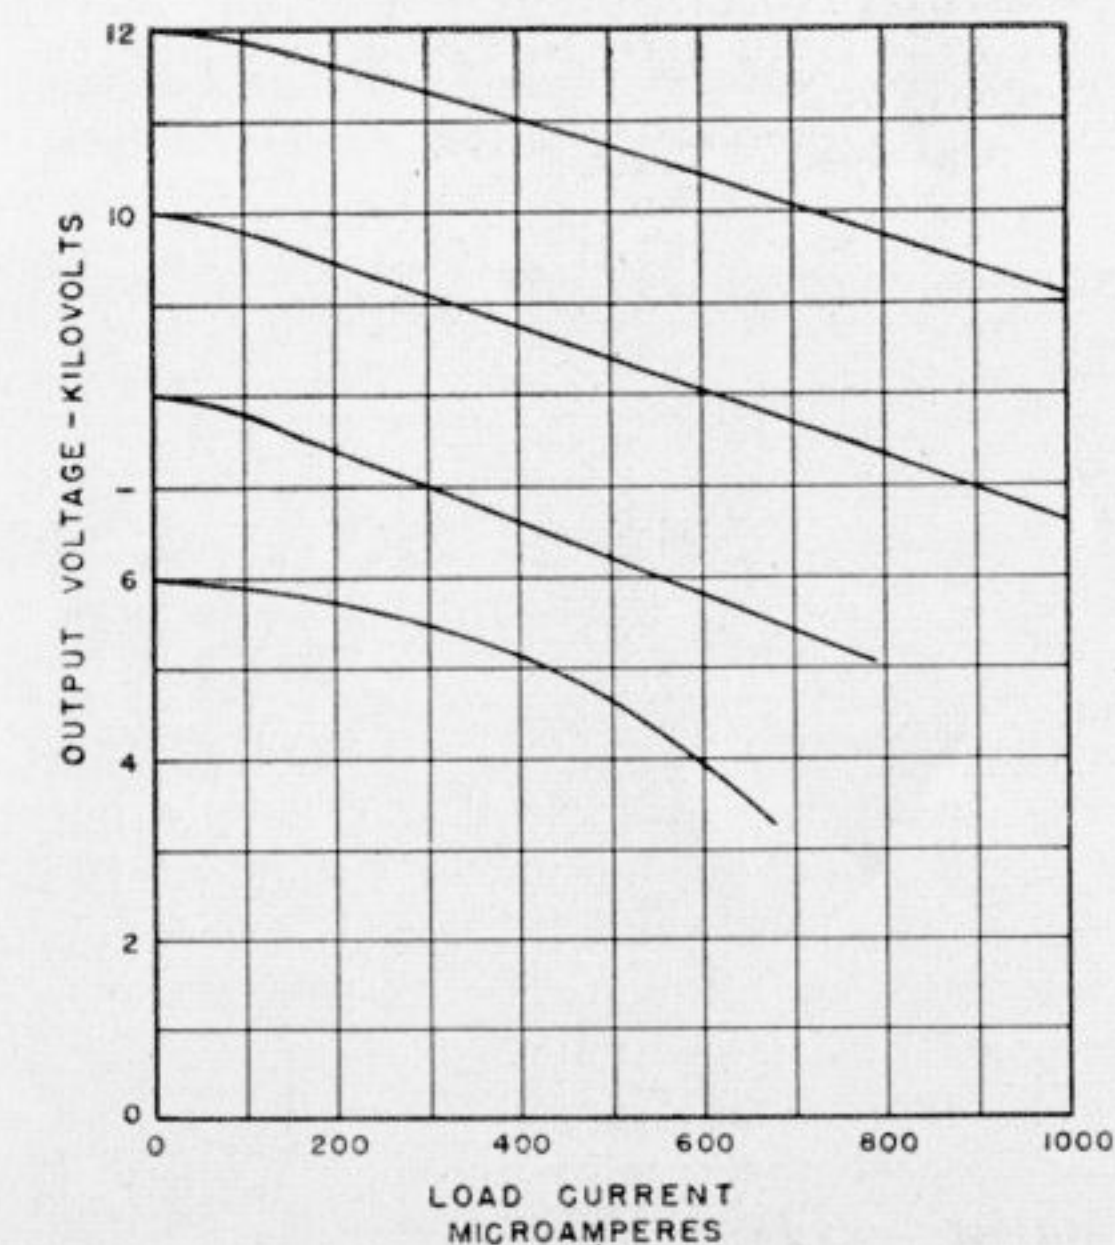

Figure 1. Output potential versus load current in The Type 263-B High-voltage Power Supply
**CURRENT OUTPUT**—Up to 200 microamperes are delivered at potentials from 6000 to 12,000 volts. Currents to 1 milliampere are available at somewhat lower total voltage values (see Figure 1 on page 59).